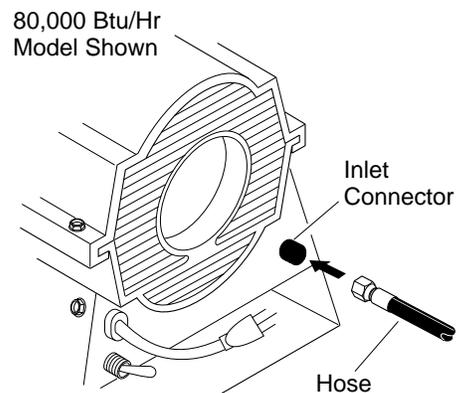

Figure 5 - Hose and Inlet Connector
3. Connect hose to inlet connector (see Figure 5). Tighten firmly using a wrench.